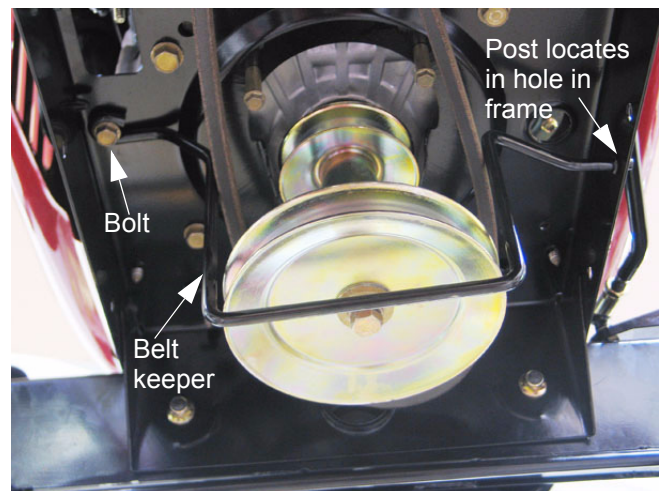

Figure 11.10
- 11.10. Remove the beltkeeper surrounding the engine pulley, using a 1/2" wrench. See Figure 11.10.